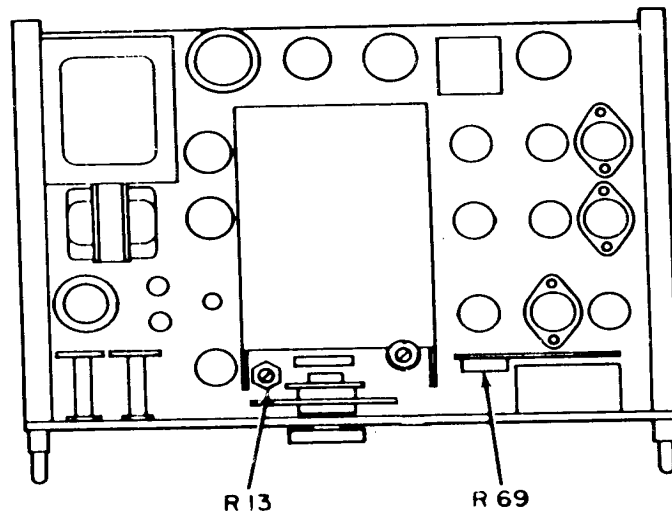
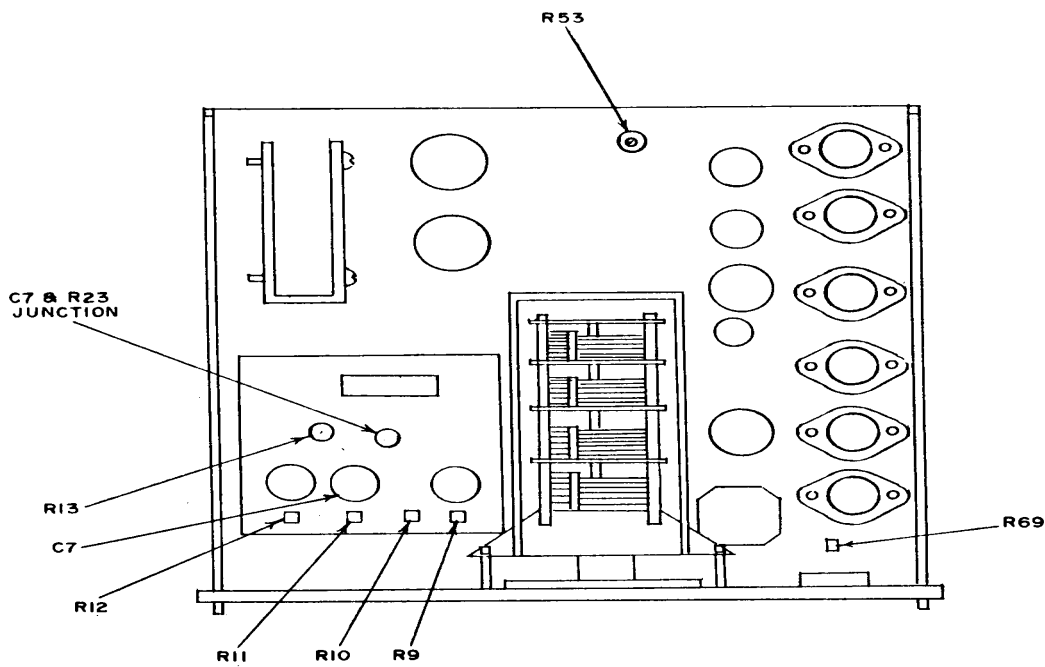
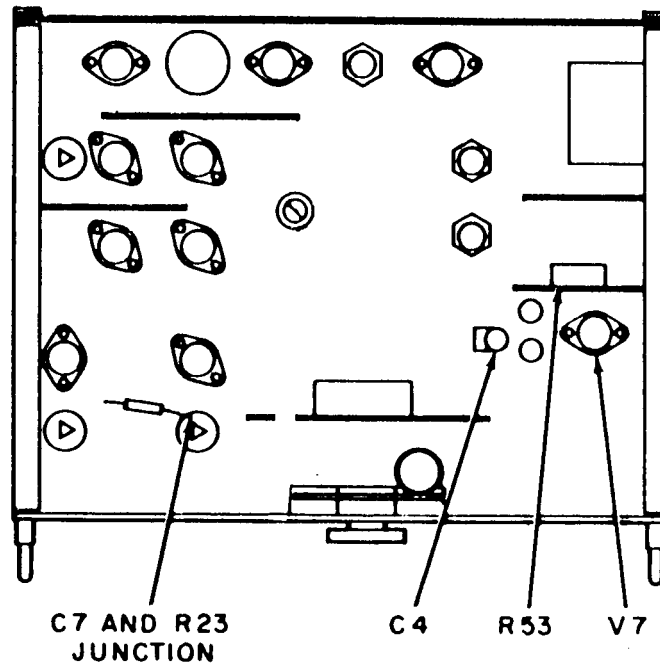

Figure 1. Signal generator - top interior view.
Figure 2. Signal generator - top interior view, SG-71C/FCC.
Figure 4. Signal generator - bottom interior view
(1) Adjust **AMPLITUDE COARSE** and **FINE** controls until true rms voltmeter indicates 40 V ac.
(2) Adjust **R69** (fig. 1), (for SG-71C/FCC, (fig. 2)) until **OUTPUT LEVEL** meter indicates 40 on the 0 to 50 scale (R).
- (1) Connect multimeter between **C7** and **R23** junction (fig. 4), (for SG-71C/FCC, fig. 2) and ground.
- (2) Adjust **R13** (fig. 1) (for SG71C/FCC, fig. 2), until true rms voltmeter indicates 22.5 V ac (R).
- (3) Repeat **a** (1) through (5) above.
- (4) Set frequency dial to **500** and **RANGE** switch to **X1**.
- (5) Adjust **X1** front panel control (for SG-71C/FCC, **R9**, fig. 2) until frequency counter indicates 500 Hz (R).
- (6) Set **RANGE** switch to **X10**.
- (7) Adjust **X10** front panel control (for SG-71C/FCC, **R10**, fig. 2) until frequency counter indicates 5000 Hz (R).
- (8) Set frequency dial to **50** and **RANGE** switch to **X100**.
- (9) Adjust **X100** front panel control (for SG-71C/FCC, **R11** fig. 2) until frequency counter indicates **5000 Hz** (R).
- (10) Set **RANGE** switch to **X1000**.
- (11) Adjust **X1000** front panel control (for SG-71C/FCC, **R12**, fig. 2) until frequency counter indicates 50,000 Hz (R).
- (12) Turn frequency dial to **500**.
- (13) Adjust **C4** (fig. 4) until frequency counter indicates 500,000 Hz (R).
- (14) Repeat (4) through (13) above until no further adjustments are required.
(1) Connect multimeter between **pin 8** of **V7** (fig. 4), and ground. Multimeter will indicate between 230.0 and 250.0 V dc, if not perform **b** below. Record indication.
(2) Vary autotransformer output between 105 and 125 V ac. Multimeter will indicate within 1.0 V of value recorded in (1) above.
b. Adjustments. Adjust **R53** (fig. 4) (for SC-71C/FCC, fig. 2) until multimeter indicates 240 V dc (R).